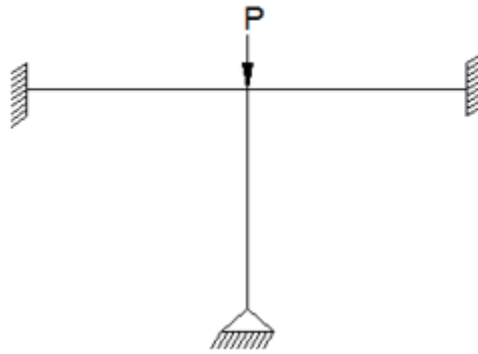

Fig.1
9. Compute the critical load of the frame shown in Fig. 1 by energy method. All members have the same 'EI' and 'I'.